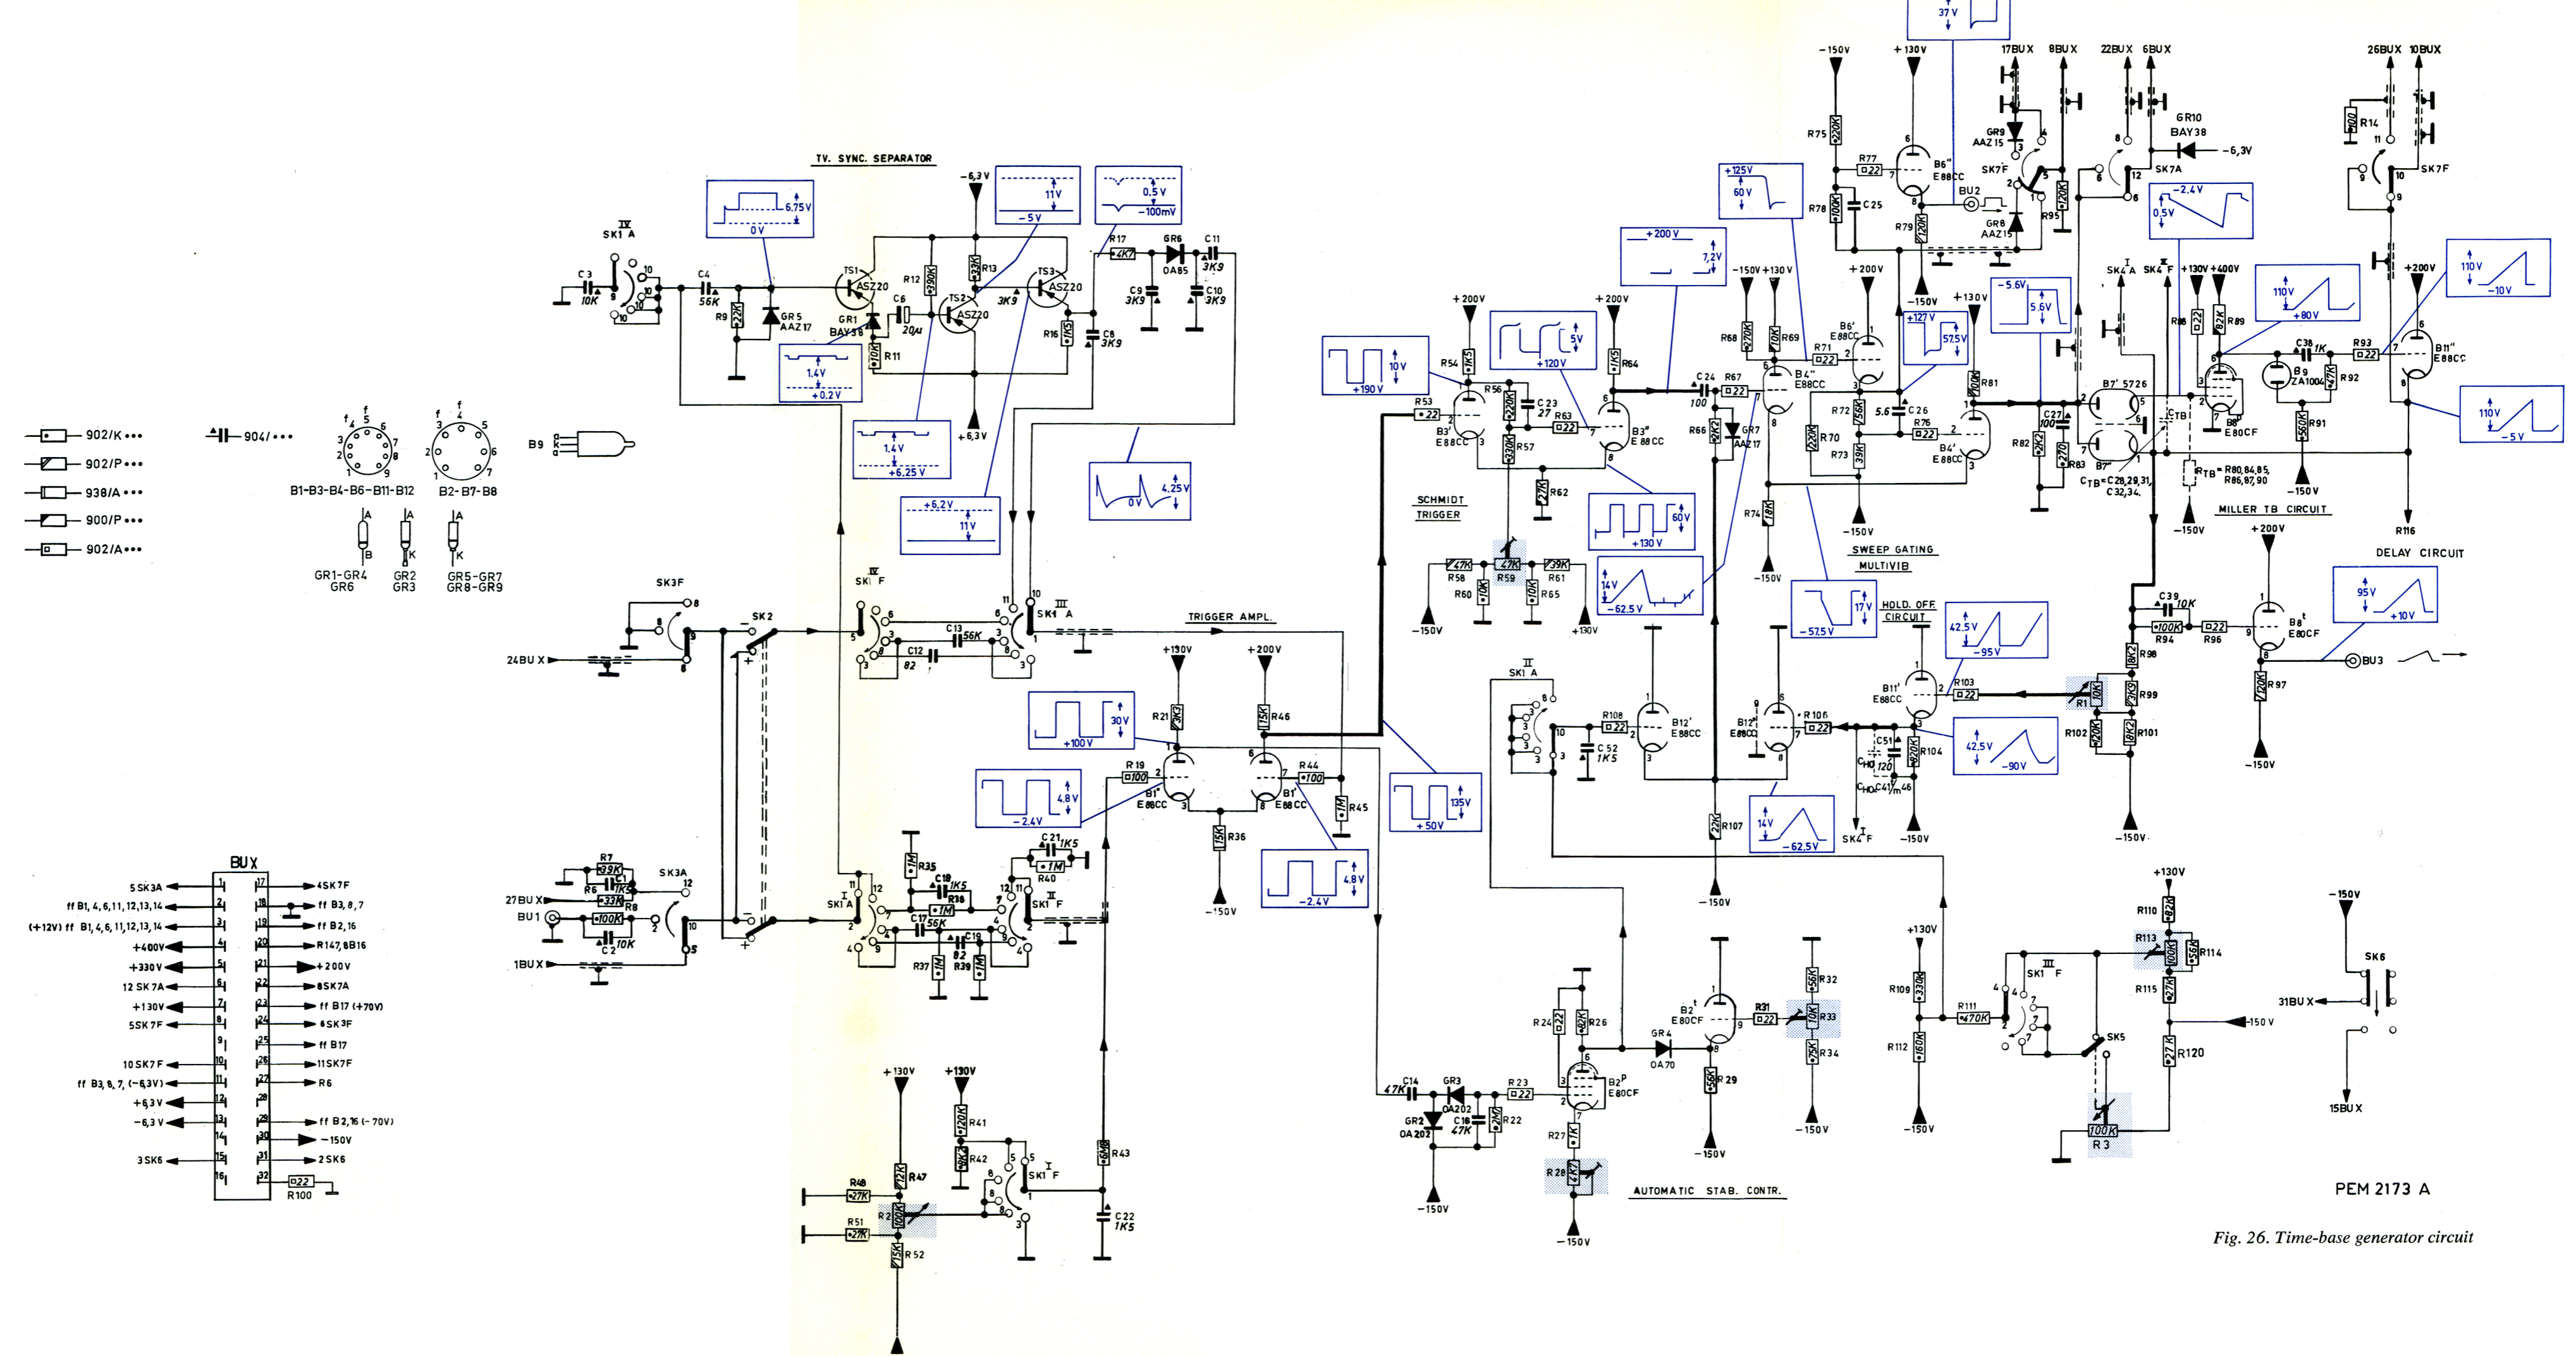

Fig. 26. Time-base generator circuit
- On the output terminals "+ GATE" (BU2), "TIME BASE" (BU3) and "DEL'D TRIGG." (BU4), synchronous voltages should be available, as shown in Fig. 11 and Fig. 26.